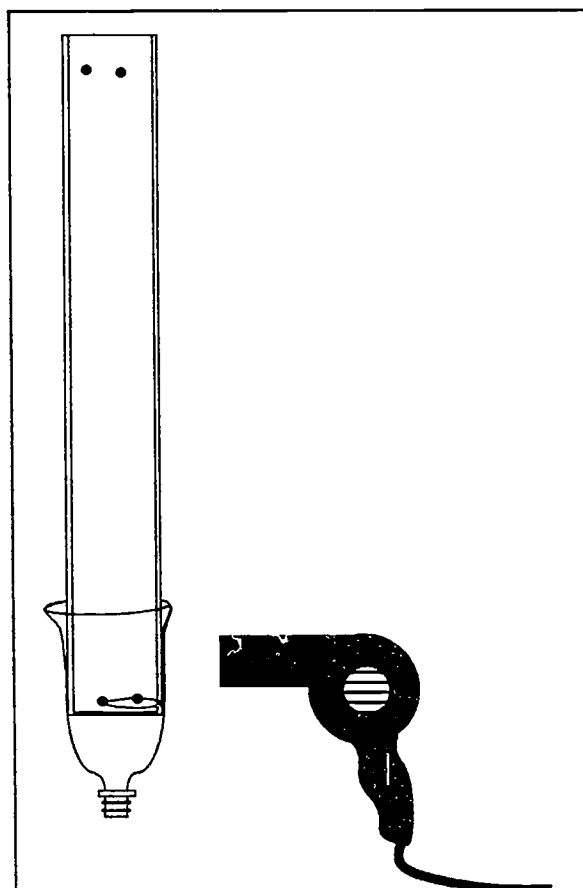

Fig. 3. Shrinking the upper portion of the plastic bottle around the bottom of the large acrylic tube using a hair dryer.
6. Push the soda bottle over the acrylic tube until the neck of the bottle fits snugly against the bottom rim (see Figure 3).